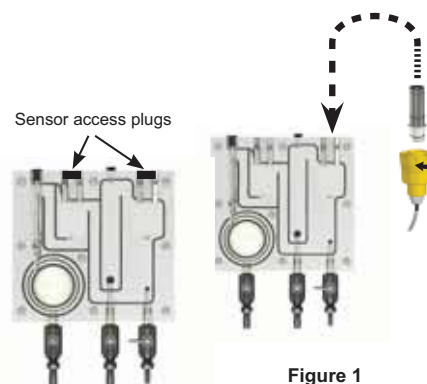

Figure 1
**Step 4.** Remove sensor access plugs from the flow cell (Figure 1). If the optional pH sensor is NOT used, do not remove the left-side plug from the flow cell.